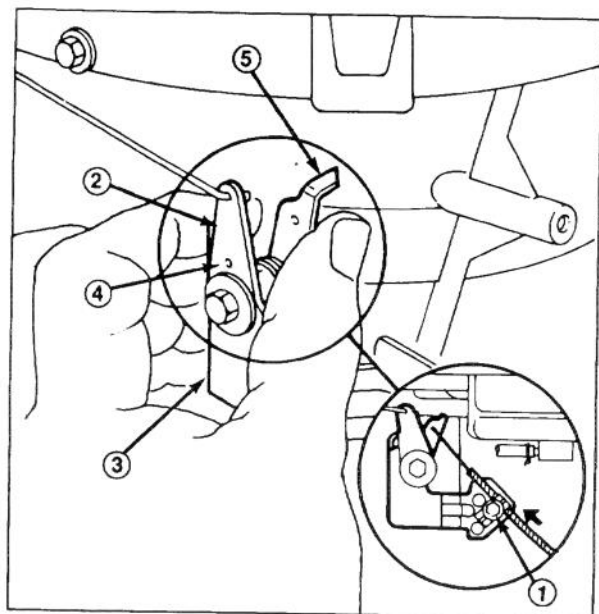

Figure 29
3. Loosen cable clamp screw until throttle cable slides (Fig. 29). Align holes in choke arm and throttle bracket. A small dia. pin may be inserted into aligned holes to hold adjustment. Push throttle cable until throttle arm makes contact with choke arm. Tighten cable clamp. Remove pin if used.